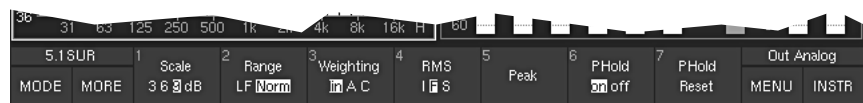

Fig. 5-23: Second Toolbar function layer of the RTA instruments (displayed after selecting MORE) in Surround modes
(Second layer, button/key 1, see Fig. 5-23)
(Second layer, button/key 2, see Fig. 5-23)
(Second layer, button/key 3, see Fig. 5-23)
(Second layer, button/key 4, see Fig. 5-23)
(Second layer, button/key 5, see Fig. 5-23)
(Second layer, button/key 6, see Fig. 5-23)
(Second layer, button/key 7, see Fig. 5-23)